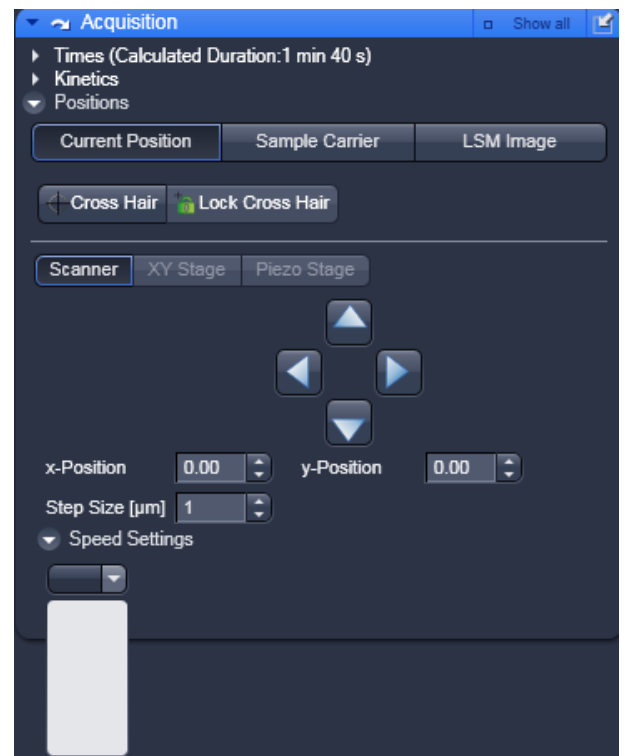

Fig. 9-40 Current Positions panel
- Click on the **Position** tab to open the **Position** panel (Fig. 9-40). Click again to close the panel.